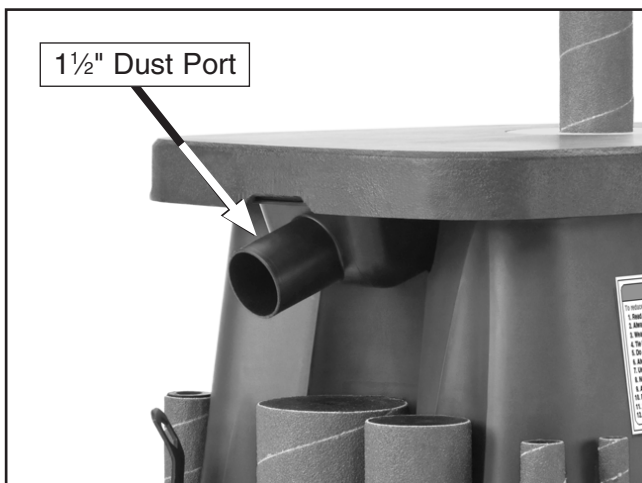

Figure 8. Dust port location.
1. Fit a 1½" dust hose over the dust port shown in **Figure 8** and secure in place with a hose clamp.